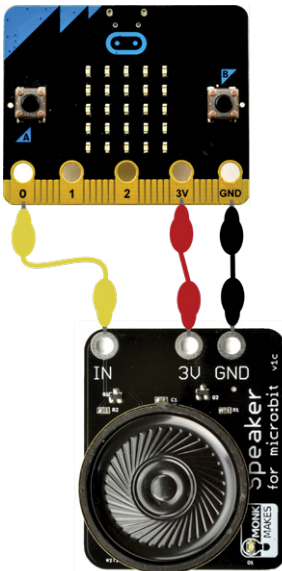

Figure 3-2: Attaching the micro:bit to a speaker
1. Connect the speaker to the micro:bit using the three alligator cables, as shown in Figure 3-2.
8. Flip the whole thing over and connect the micro:bit and speaker, as shown in Figure 3-7. Reference Figure 3-2 if you need help with the connections.